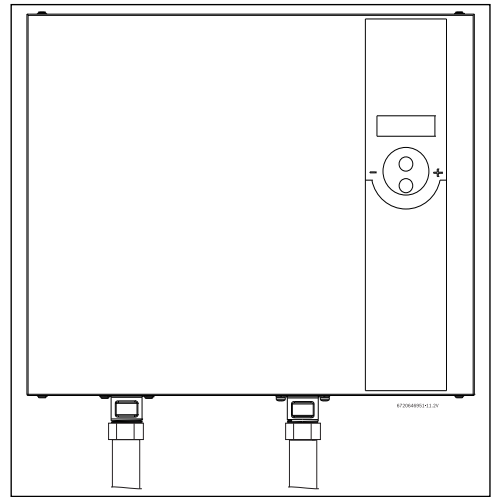

Fig. 6 Vertical mounting position
- ▶ The heater must only be installed in the orientation shown in Fig. 6 i.e., mounted in a horizontal position with the water fittings located at the bottom of the heater. **Under no circumstances should the heater be mounted differently.**